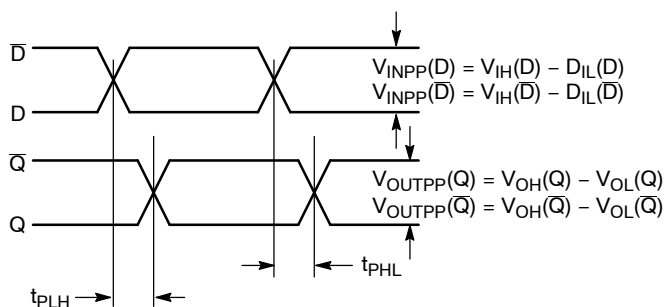

Figure 8. AC Reference Measurement
16. See Figure 8 $t_{skew} = |t_{PLH} - t_{PHL}|$ for a nominal 50% differential clock input waveform.